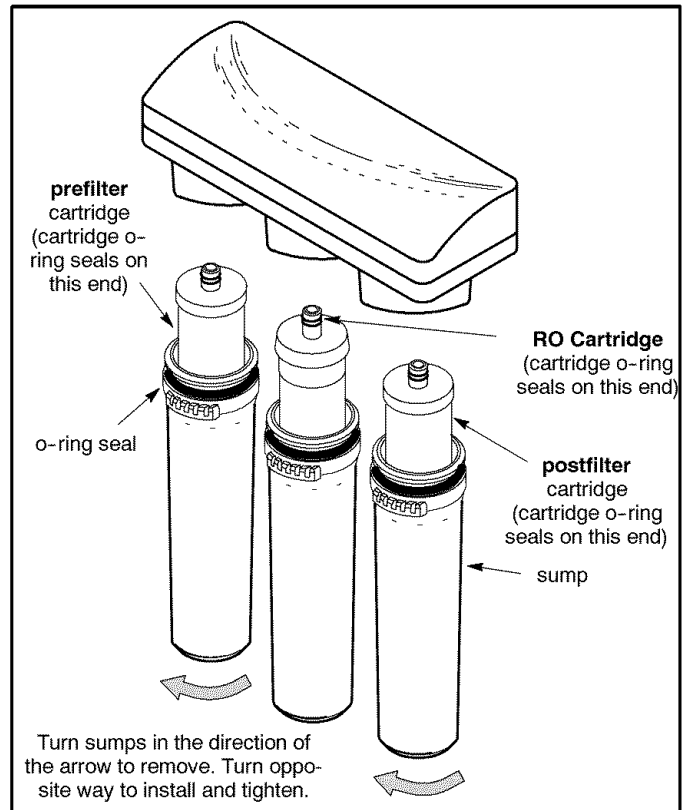

Figure 10
2. Referring to Figure 10, page 12, remove the RO membrane sump by twisting 1/4 turn left (↺). Remove the RO cartridge from sump. Place the cartridge in a **clean** plastic bag.
Important: Refer to Figure 10, page 12, and to page 13 when replacing cartridges. The prefilter (left side) cartridge and the postfilter (right side) have purple end caps.
To replace the filter cartridges (see Figure 10):
To replace the RO cartridge (see Figure 10):